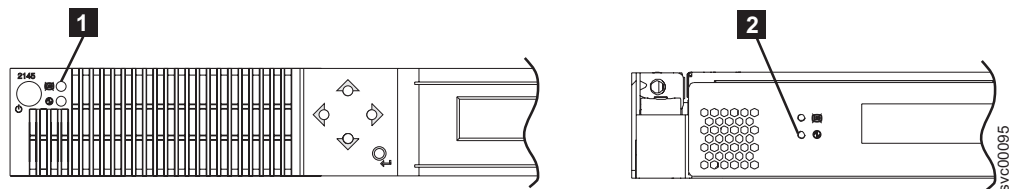

Figure 52. Service controller check lights
**Is the service controller check indicator on the SAN Volume Controller front panel illuminated and showing a solid amber? See Figure 52.**